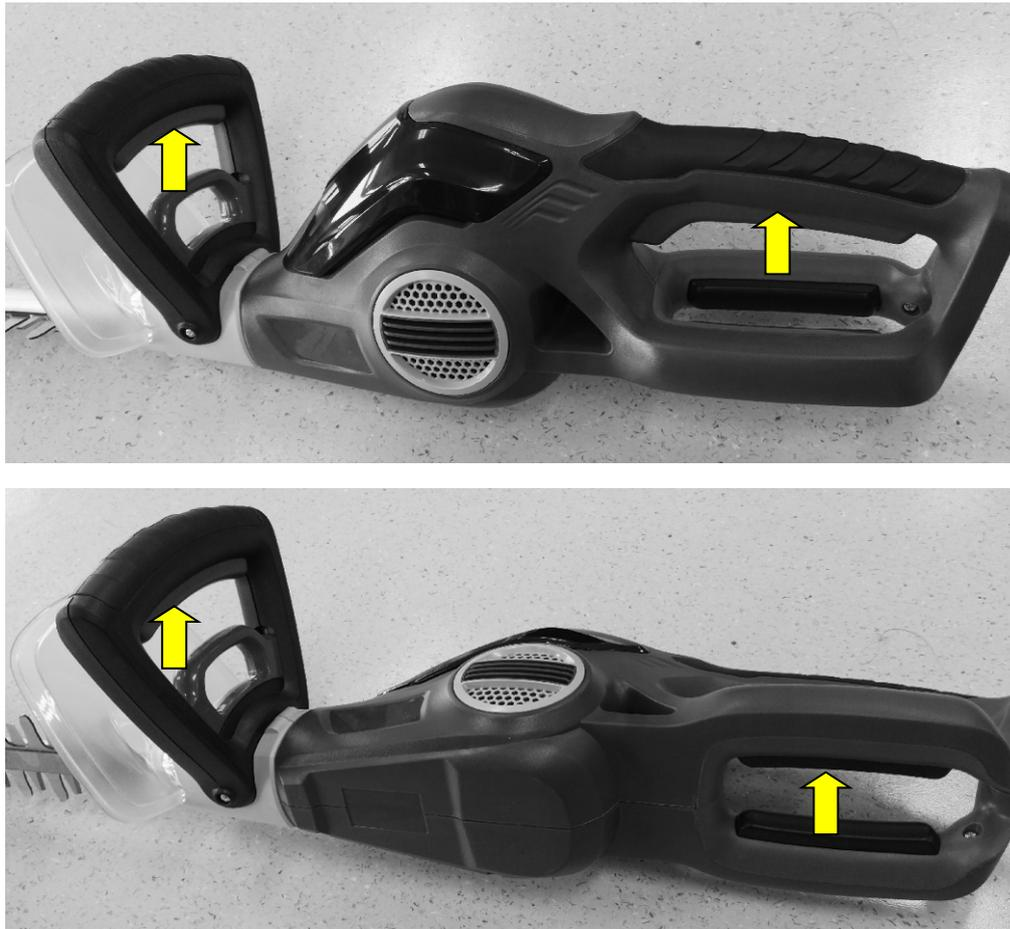

Fig. 2
- Hold the hedge trimmer firmly with both hands and simultaneously squeeze the trigger on the rear handle with your right hand and the left hand pressing the front handle safety switch forward as shown in Figure 2 below.